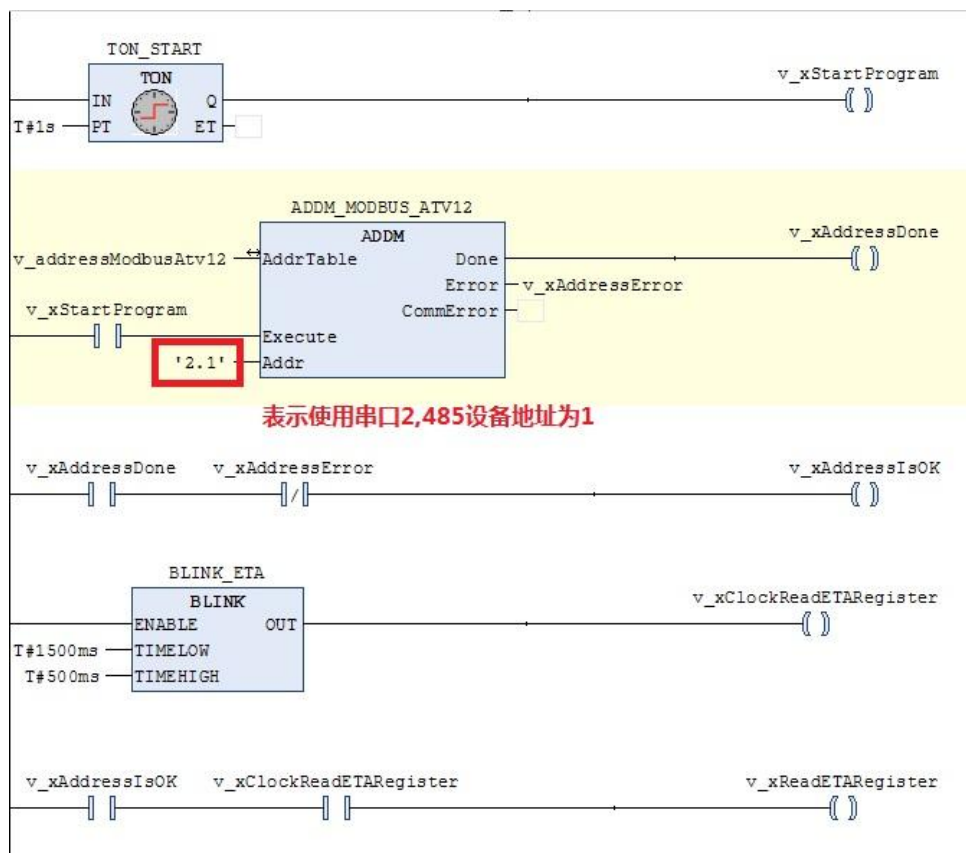

Figure F4-4
①Initialize and define the port and address, as shown in Figure F4-4: